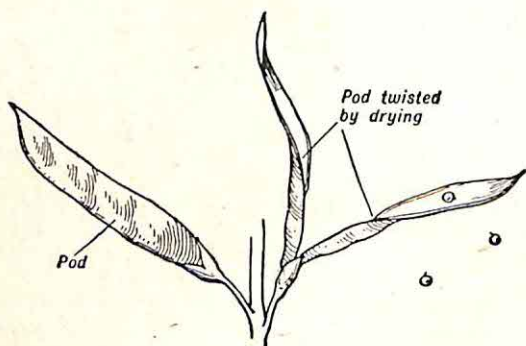
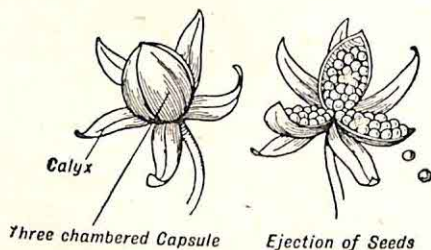

FIG. 153.—EXPLOSION OF BROOM POD.
FIG. 154.—CAPSULE OF PANSY.
*Self-dispersal* is effected by many box fruits. Broom pods tend to uneven shrinkage as they dry, but are held in place at their edges. Suddenly the strain tears apart the two halves, the fruit explodes with an audible "pop," and the separate halves curve into spirals (Fig. 153) and throw out the seeds, often to a distance of several feet. Pansy capsules open suddenly and eject the seeds (Fig. 154) while poppies shake their seeds through pores in the capsule, a pepper-box effect which is aided by wind or the passage of animals.